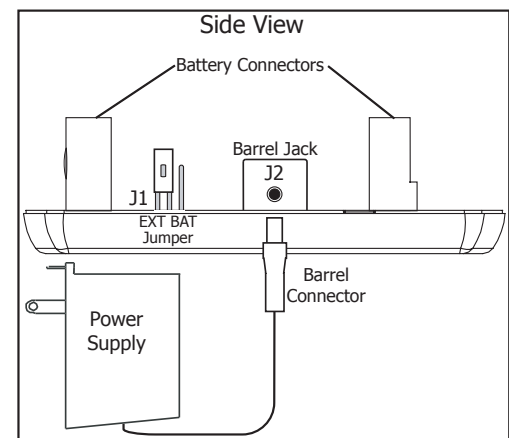

Figure 3: 1117 Side View
4. Plug the barrel connector into the J2 barrel jack at the side of the 1117 cover. See Figure 3.